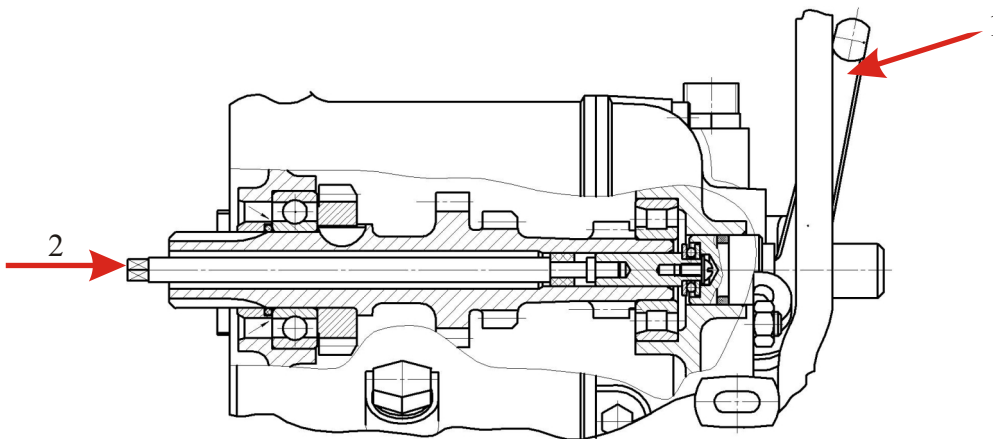

Fig. 44 Removing the Clutch Release Mechanism
To remove the clutch release mechanism (Fig. 44):
- Remove the clutch release arm (Fig.44, Pos.1);
- By pressing on the front end of the clutch release rod (Fig.44, Pos.2), remove the clutch release slider, the thrust ball bearing, the rod tip and finally the clutch release rod.